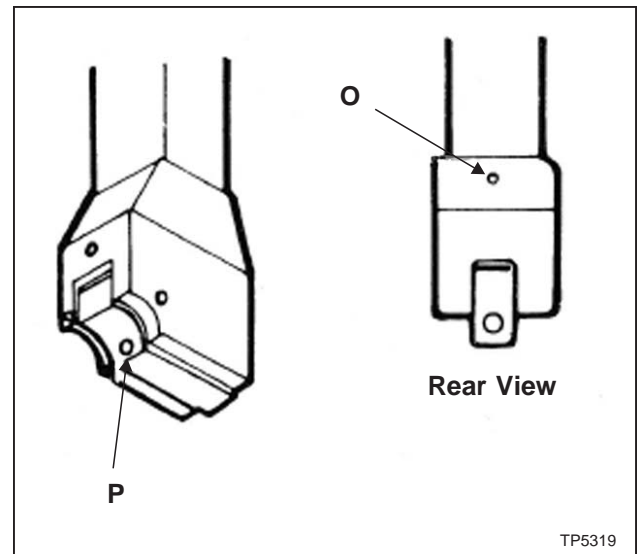

Figure 2.35 - Swiveling E-Head Clapper Box
1. Loosen the two set screws "O", Figure 2.35.